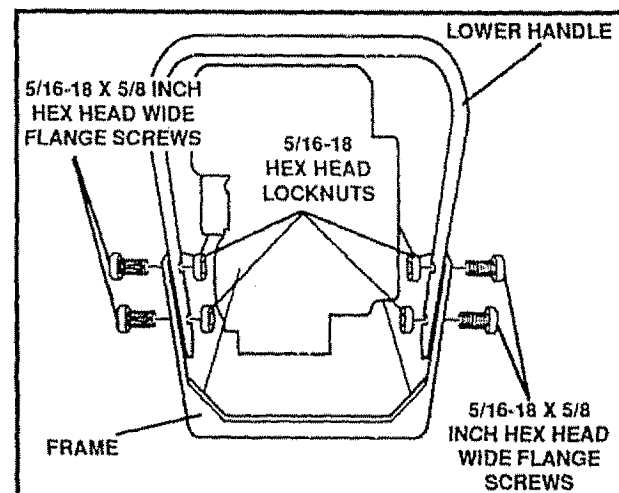

FIG. 3
- Place the lower handle inside the edger frame (See Fig. 3) and secure in place with four (4) 5/16-18 hex head wide flange screws and four (4) 5/16-18 hex head locknuts (found in parts bag). Hold back on the lower handle as you tighten the screws. **NOTE:** Locknuts should be on the inside of frame as shown in Fig. 3.